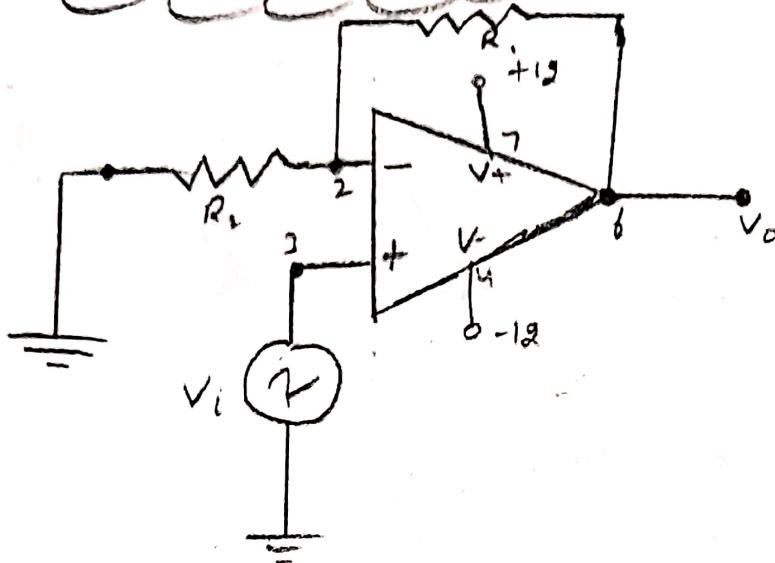

Fig. 3: sym Non-Inverting Amplifier
- 1- Assemble the circuit shown in Fig. 3 with  $R_1 = 10\text{k}\Omega$  and  $R_2 = 1\text{k}\Omega$ , make sure the power supply ground is connected to the circuit ground.